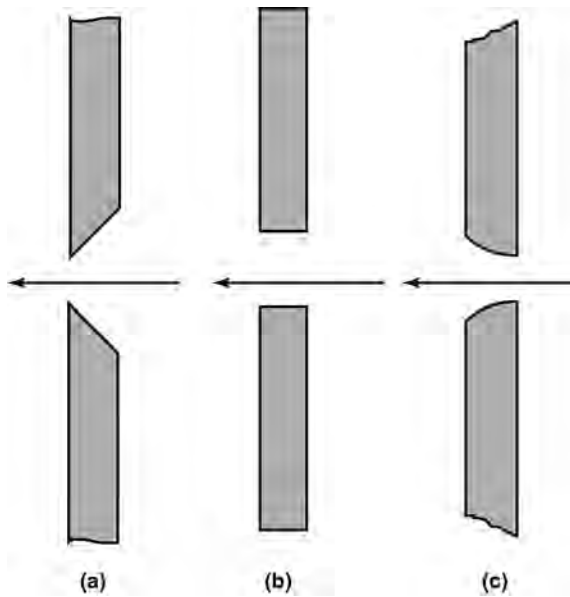

FIGURE 4.4 Types of orifice plates. (a) Sharp-edged, (b) thick plate, and (c) thick plate with curved radius.
- With sharp-edged orifice, the cross section of discharging liquid, contracts as it leaves the opening. Figure 4.4 illustrates a sharp-edged orifice along with square and rounded orifices. Sharp-edged orifices are used as standard orifices. Flow through the other two orifices is affected by the thickness of the plate and the roughness of the surface, and for the rounded type, the radius of curvature.